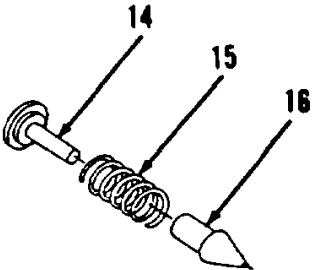

Figure 10-104.
- 9. Remove retainer (14) and spring (15) from valve (16, Figure 10-104).
- 1. Install spring (15) and retainer (14) on valve (16, Figure 10-104).